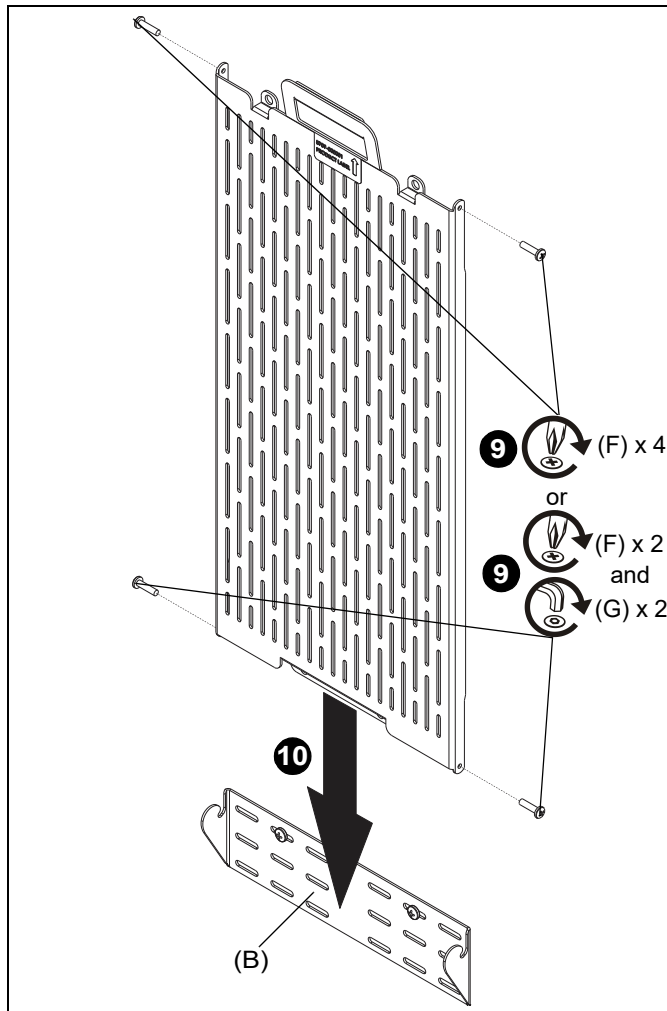

Figure 11
9. Loosely install four #10-24 x 3/4" Phillips pan machine screws (F) into top and bottom holes on accessory wall plate (A). Two #10-24 x 1/2" button head security screws (G) may be used in place of two Phillips screws (F) on the top or bottom if greater security is desired. (See Figure 11)
10. Slide accessory wall plate (A) onto top wall bracket (B) until top two screws (F) or (G) hang in upper slots of wall bracket (B). (See Figure 11)